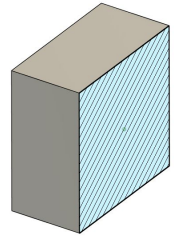

Figure 1.1
- **3D Solids:** Represent a full, closed volume (like a solid block). These are ideal for machining, milling, and simulation because they include physical properties like density and mass (see Figure 1.1).